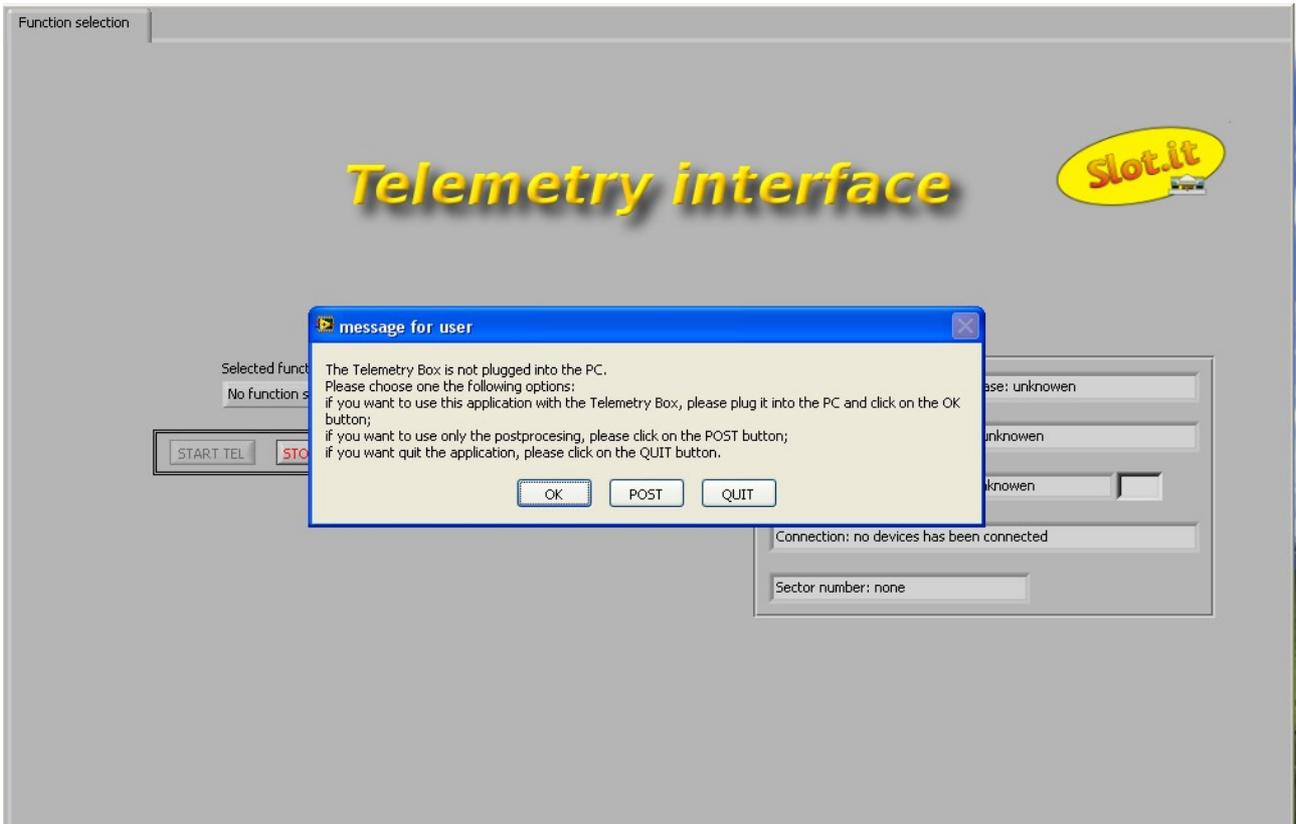
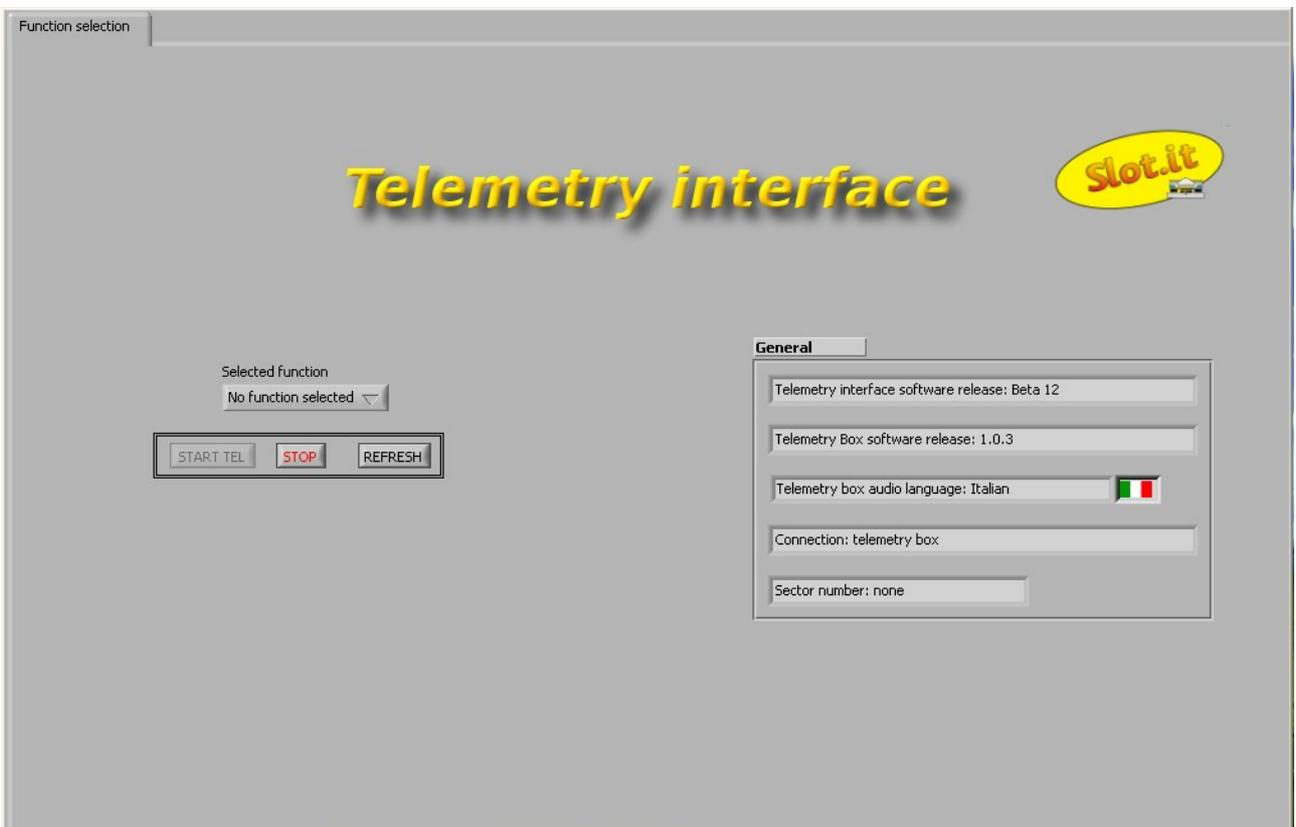

Figure 37: starting windows Telemetry Box PC Interface with disconnected Telemetry Box.
Figure 38: starting windows Telemetry Box PC Interface with connected Telemetry Box.
In order to run the application *Telemetry Box PC Interface* you only have to position the mouse's indicator on the icon of the application itself and make a double click with the left key. The *Telemetry Box PC Interface* can present itself in two different ways according that the *Telemetry Box* is connected or not to the PC. If the *Telemetry Box* is not connected to the PC, the application presents itself as shown in figure 37, otherwise as shown in figure 38.
In case of disconnected *Telemetry Box* (figure 37), the user can carry out one of the following operations, as summarized by the message on the monitor:
- connect the *Telemetry Box* to the PC by means of a USB cable for printer (type AB) and push "OK". This means that the situation is now the one described in figure 38: use of the *Telemetry Box PC Interface* application to communicate with the *Telemetry Box* (see paragraph 16.2.1);
In case of connected *Telemetry Box* (figure 38), it can be observed that on the right side of the page there is a series of data, the result of a first data exchange between the *Telemetry Box PC Interface* application and the *Telemetry Box*. These are:
- "no box": no *Telemetry Box* is connected to the PC (the situation is the one of figure 37);
On the left side of the same page (figure 38) is a drop-down menu, "*Selected function*", in which all the functions that can be carried out are listed, but the enabled ones are only the ones that can be carried out on the basis of what the *Telemetry Box* is connected to in this moment. For example: if the *Telemetry Box* is connected to the PC only, the "telemetry" function is not enabled since it requires that the *Telemetry Box* is connected to a SCP controller, too.
- **STOP TELEMTRY**: by pushing this button, the user is asked if he wants to move on directly to the *postprocessing* function. If yes, the *postprocessing* phase begins (for its description, see paragraph), otherwise the *Telemetry Box PC Interface* application returns to the starting page (figure 38) "*Function selection*", where a message reminds the user that, in order to move on to other operations, it is necessary to select one of them from the "*Selected function*" drop-down menu.
- **STOP POSTPROCESSING:** it provokes the stop of the "Postprocessing" function; the *Telemetry Box PC Interface* application returns to the starting page, "Function selection" (figure 38), where a message reminds the user that, in order to move on to other operations, it is necessary to select one of them from the "Selected function" drop-down menu.